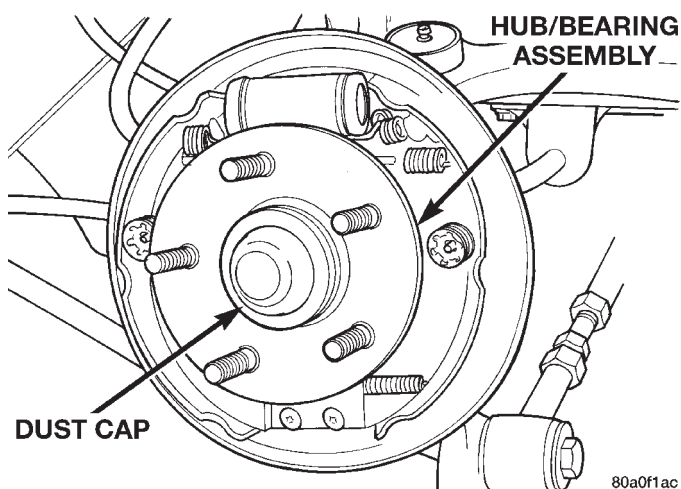

**Fig. 72 Hub And Bearing Dust Cap**
(1) Raise vehicle on jackstands or centered on a hoist. See Hoisting in the Lubrication and Maintenance section of this manual.
(2) Remove rear tire and wheel assembly from vehicle.
(3) Remove the dust cap from the rear hub and bearing assembly (Fig. 72).